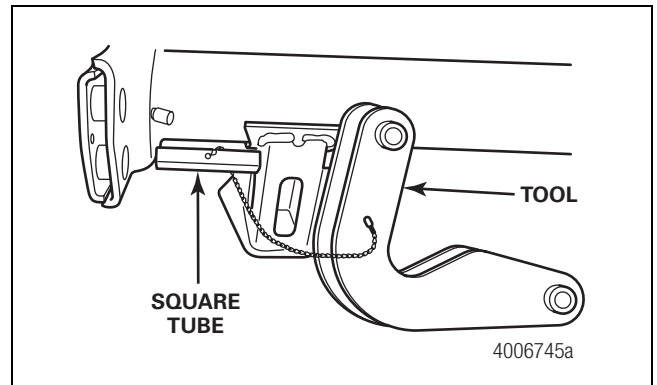

Figure 13
3. Use the square tube supplied with tool A-3256-L-1182 to set the distance from the brake spider to the axle seat. To obtain this tool, call ArvinMeritor's Commercial Vehicle Aftermarket at 888-725-9355. Figure 13.